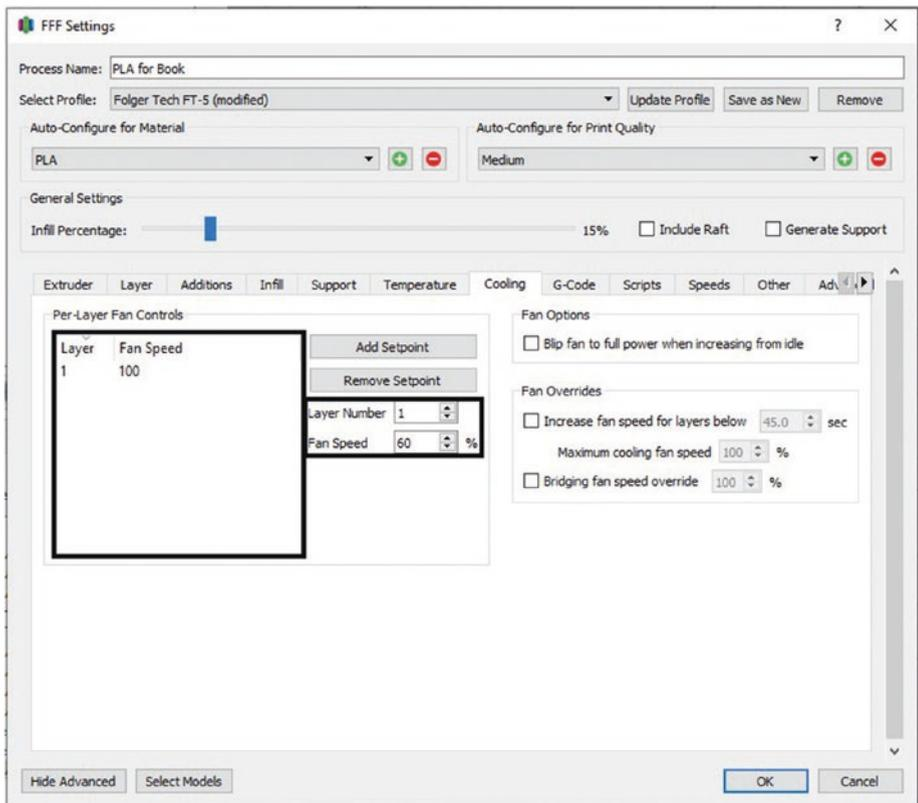

Figure 4-25. Cooling tab
7. Tab 7: Cooling (see Figure 4-25)